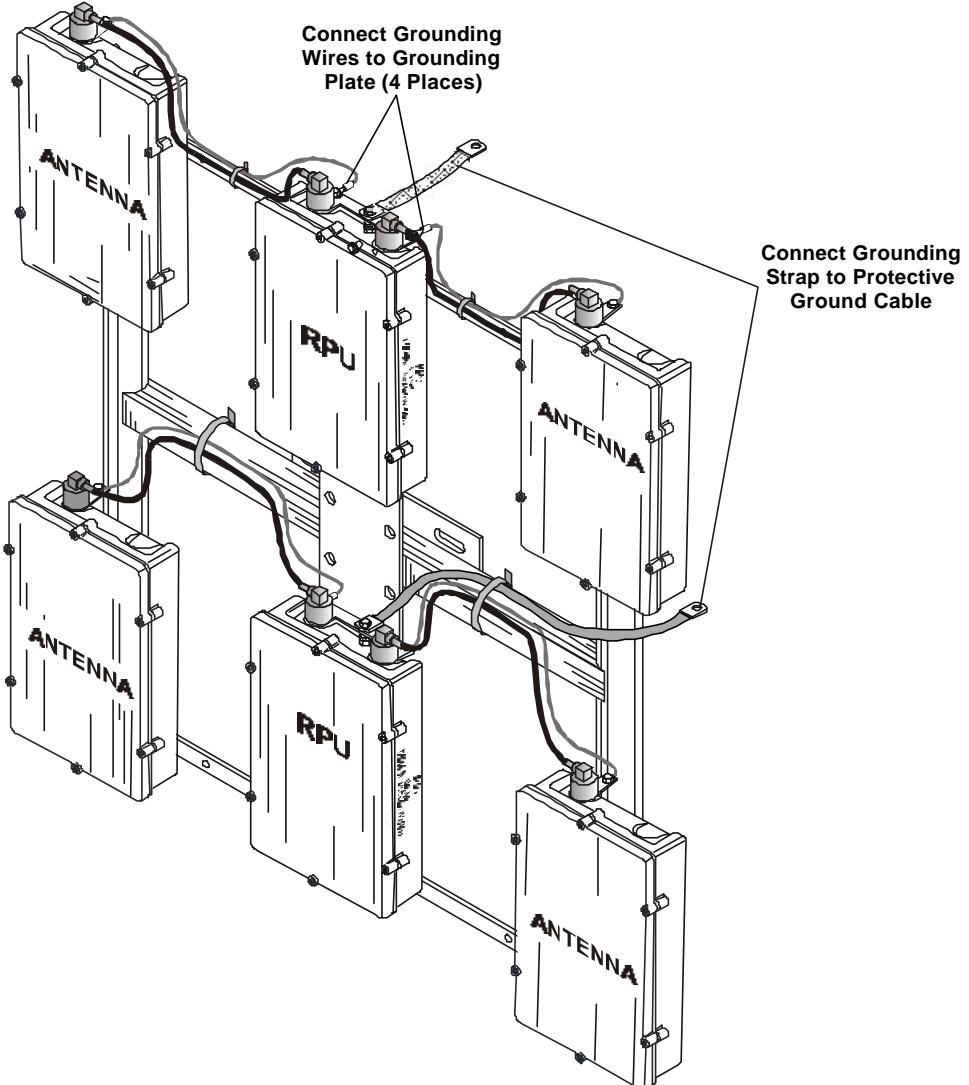
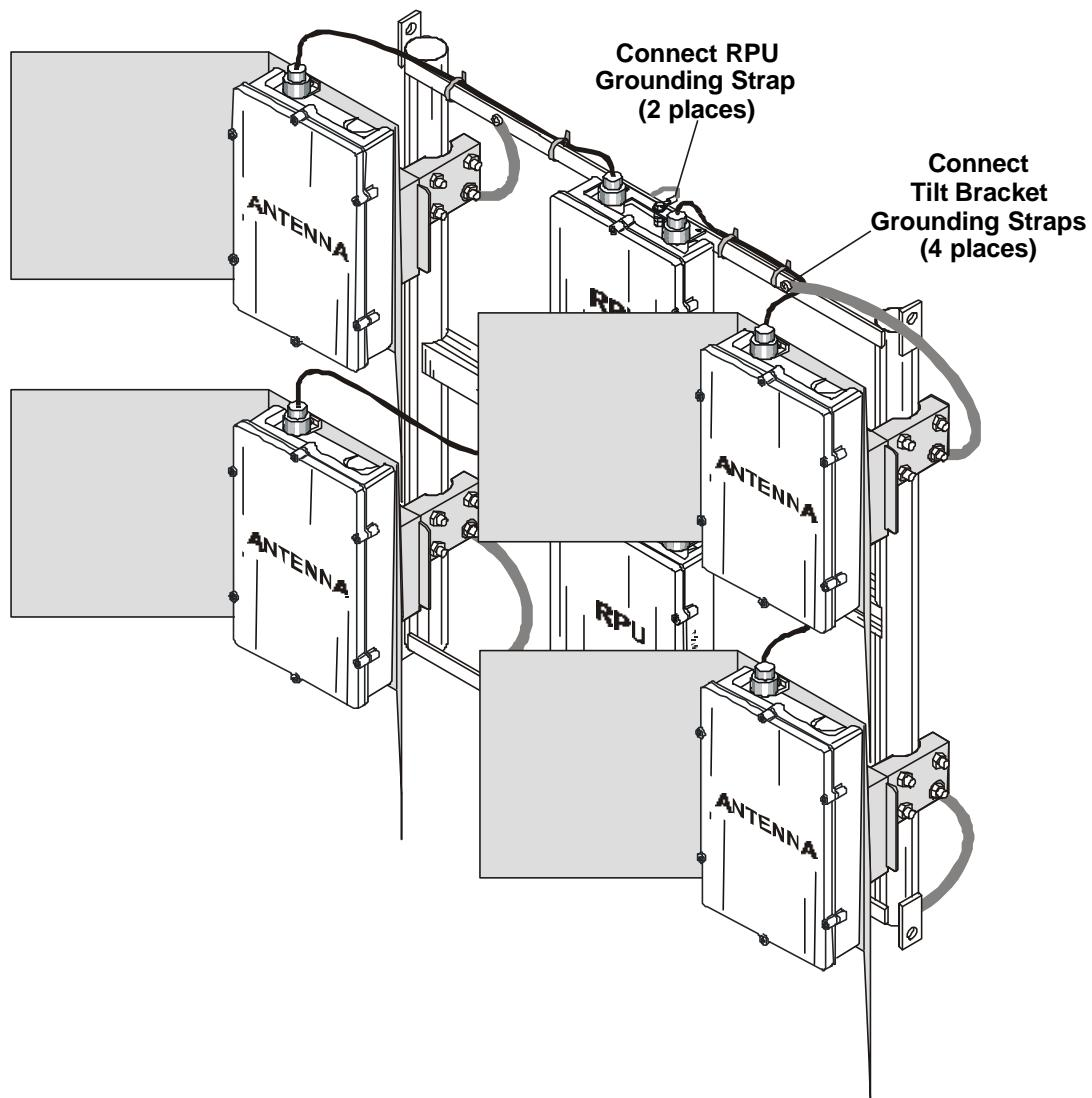
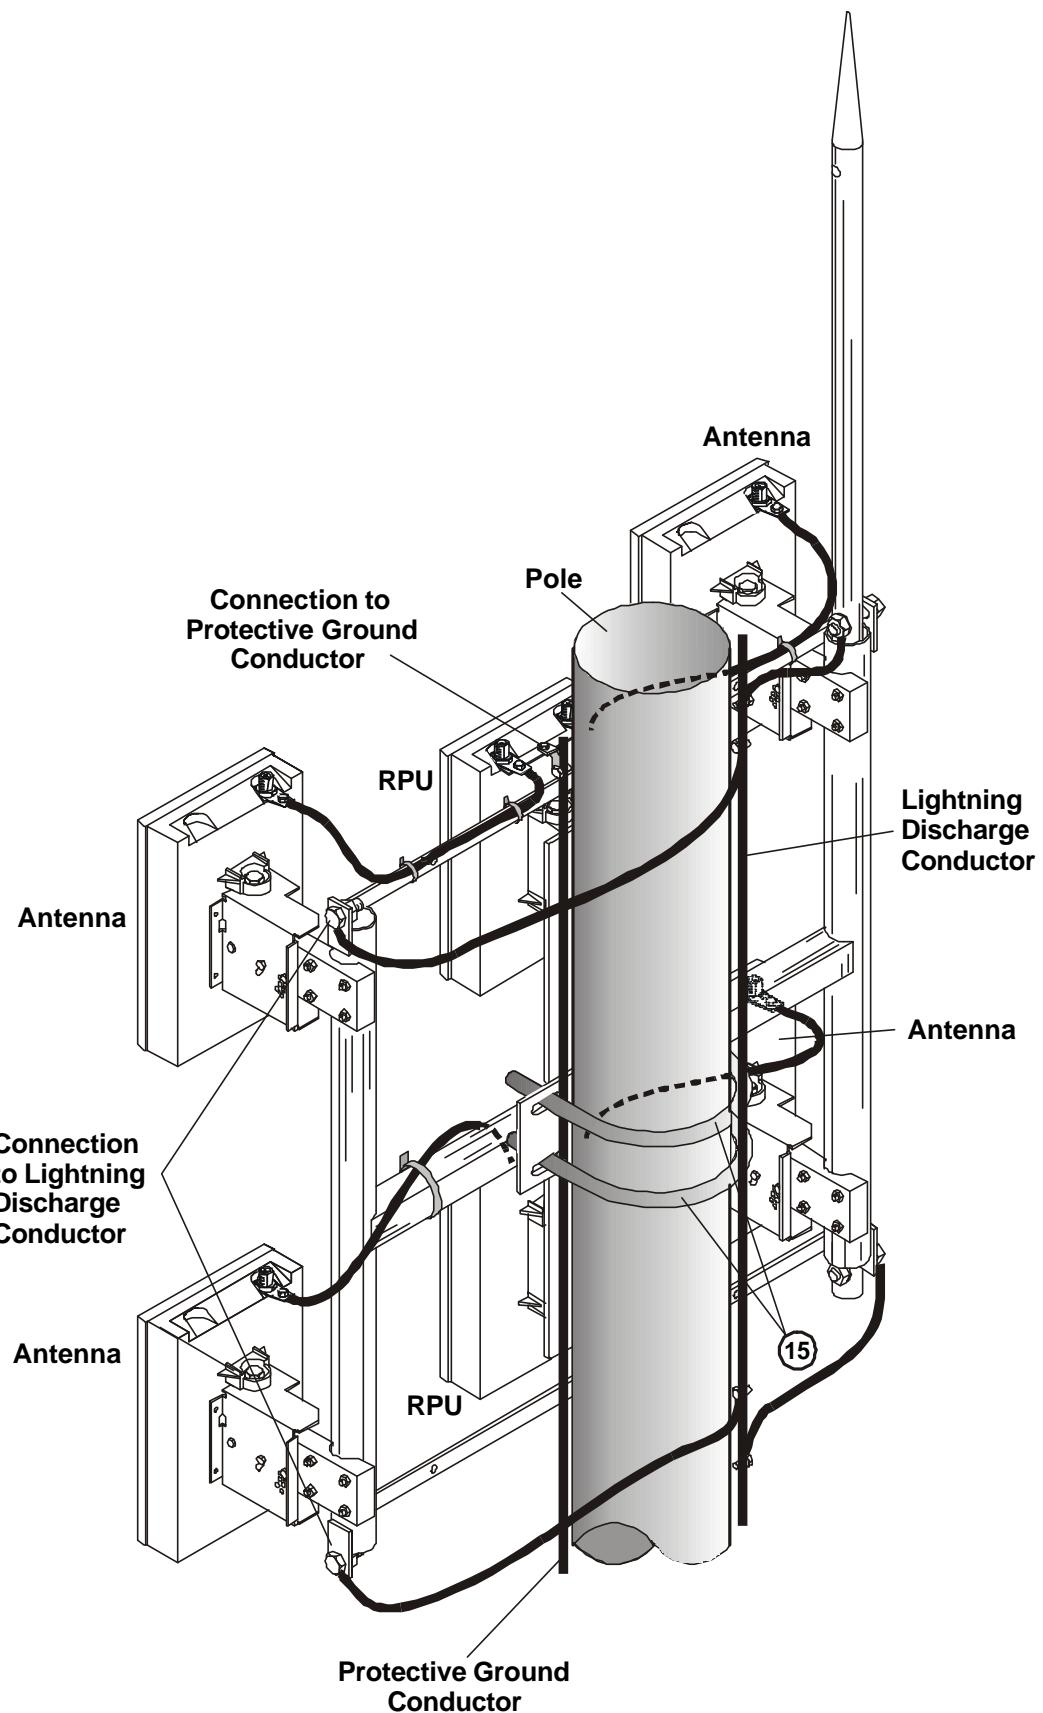
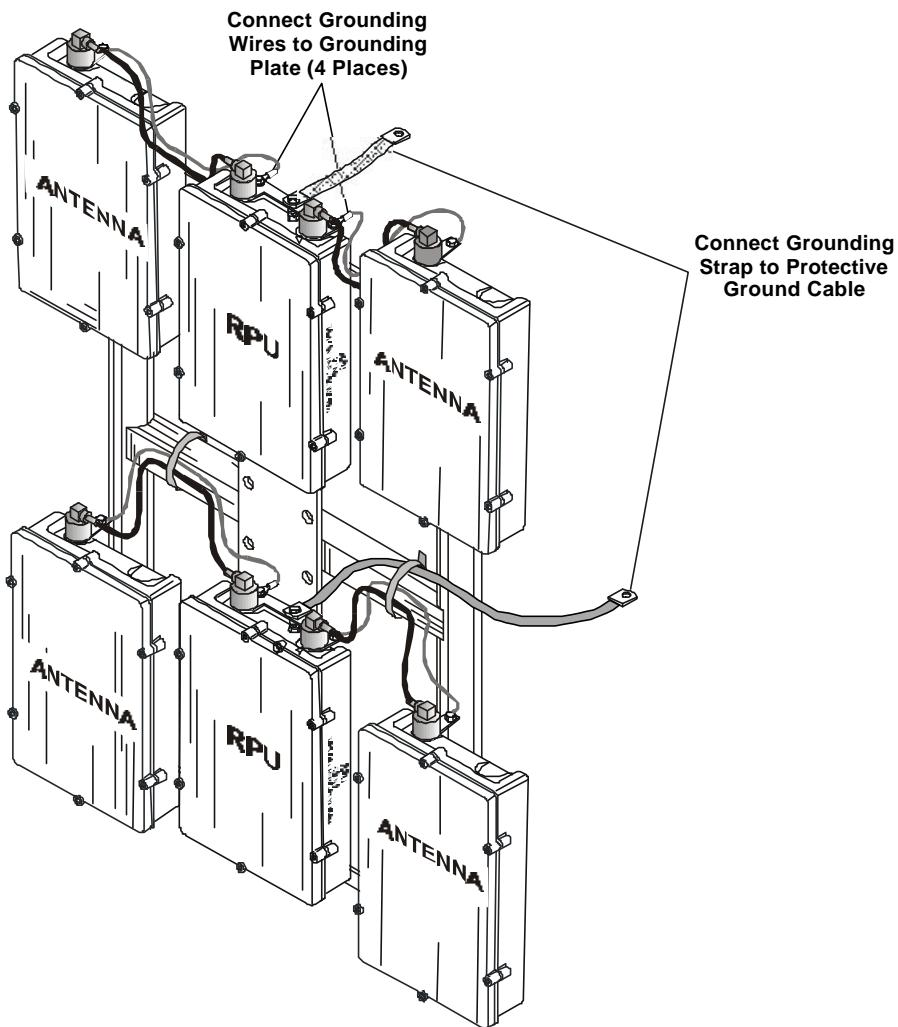

Figure 3-23. Two RPU Stations Mounted on Wide H-Support
Figure 3-24. Two RPU's and Antennas with External Reflectors Mounted on H-Support
Figure 3-25. Mounting of H-Support on Pole (RF Cables Not Shown)
Figure 3-26. Two RPU Stations Mounted on Narrow H-Support
Figure 3-23 shows two RPU's and four sectorized antenna without external reflectors attached to a H-support. Figure 3-24 shows two RPU's and four sectorized antenna with external reflectors attached to a H-support.
Refer to Figure 3-2 and Figure 3-23 through Figure 3-25. Numbers in brackets indicate the numbers of items in Figure 3-2 and Figure 3-25.
- Five. Attach the H-support by means of two U-bolts (15), flat and spring shims and nuts as shown in Figure 3-2 and Figure 3-25.
- Six. Connect the H-support to the pole lightning discharge cable by means of grounding straps, bolts, flat and spring shims and nuts as shown in Figure 3-25.
Perform the procedure of para. 3.11.2.6. Refer to Figure 3-23 or Figure 3-24 for the connections to be made to equipment installed on wide H-supports, and to Figure 3-26 for the connections to be made to equipment installed on narrow H-supports.
Seven. Connect the H-support to the tower lightning discharge conductor, by means of grounding cables, as shown in Figure 3-25 and Figure 3-26.